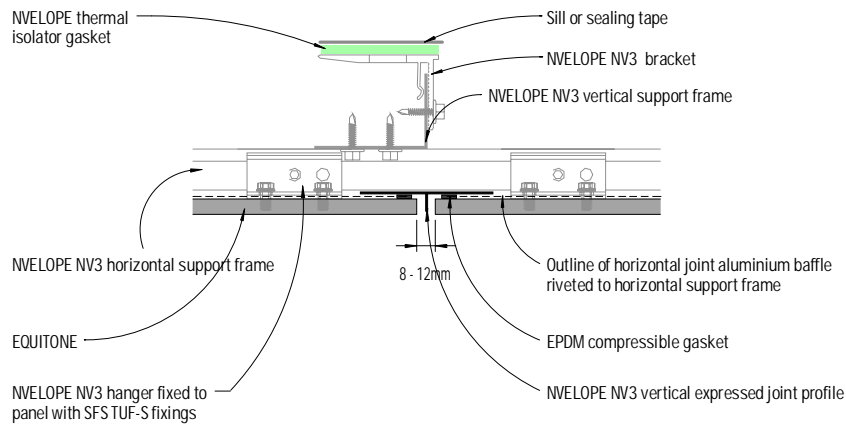
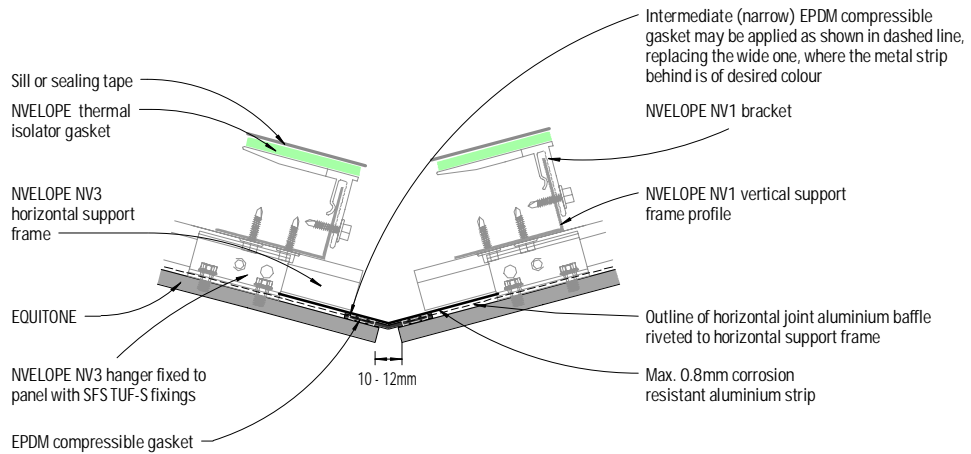

Figure 3: Vertical joint - Detail 1
Figure 4: Vertical joint - Detail 2
- 1) The deflection of NVELOPE NV3 vertical expressed joint profile (as included in Figure 3) and any aluminium strip located at the vertical joint (as included in Figure 4) shall be limited to an extent ensuring the sealed along the vertical joint is maintained with respect to project wind loading.